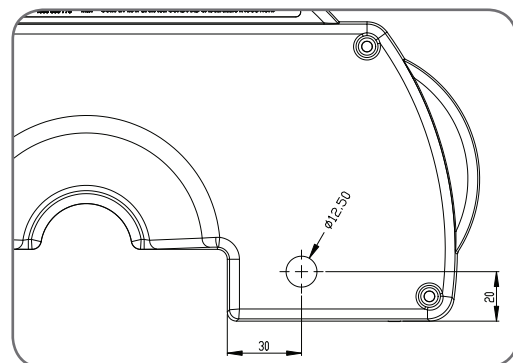

Fig 22
1. Drill a 12.5mm hole in the chassis enclosure at the location shown in (Fig. 22).